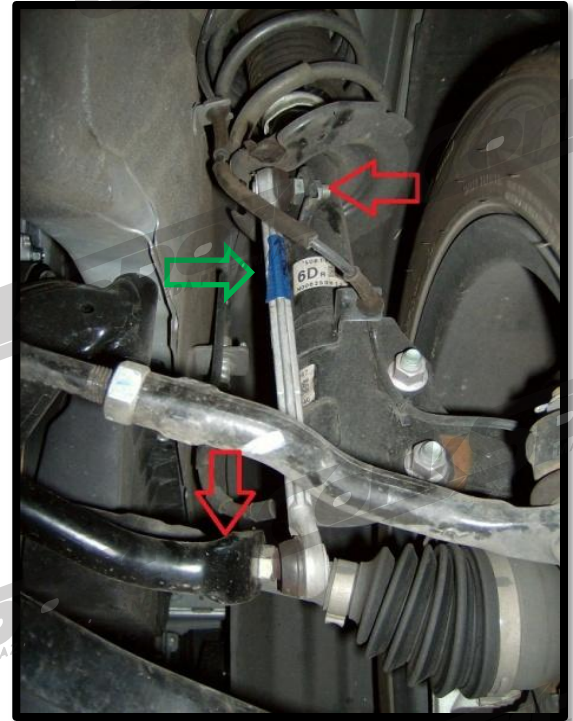

Figure 1a
- 1b) Remove the front end link from the strut and sway bar using a 14mm socket to unbolt the two (2) nuts from the end link (shown in **Figure 1a**). Remove the end link and repeat for the other side
- B) Remove the front end link from the strut and sway bar. Use a 14mm socket to unbolt the two (2) nuts from the end link (see red arrows in Figure 1a). It may be easier to reach the bottom nut using a 14mm wrench. Use tape to mark the top of the end link (as shown by the green arrow in Figure 1a) to ensure you reinstall them in the same position they were removed. Repeat for the other side.
- G) Reinstall the end link that connects the sway bar to the strut (see Figure 1a). Torque both nuts to 31-45 ft-lbs. Remember to install the end link with the side you taped facing up. Repeat for the other side.